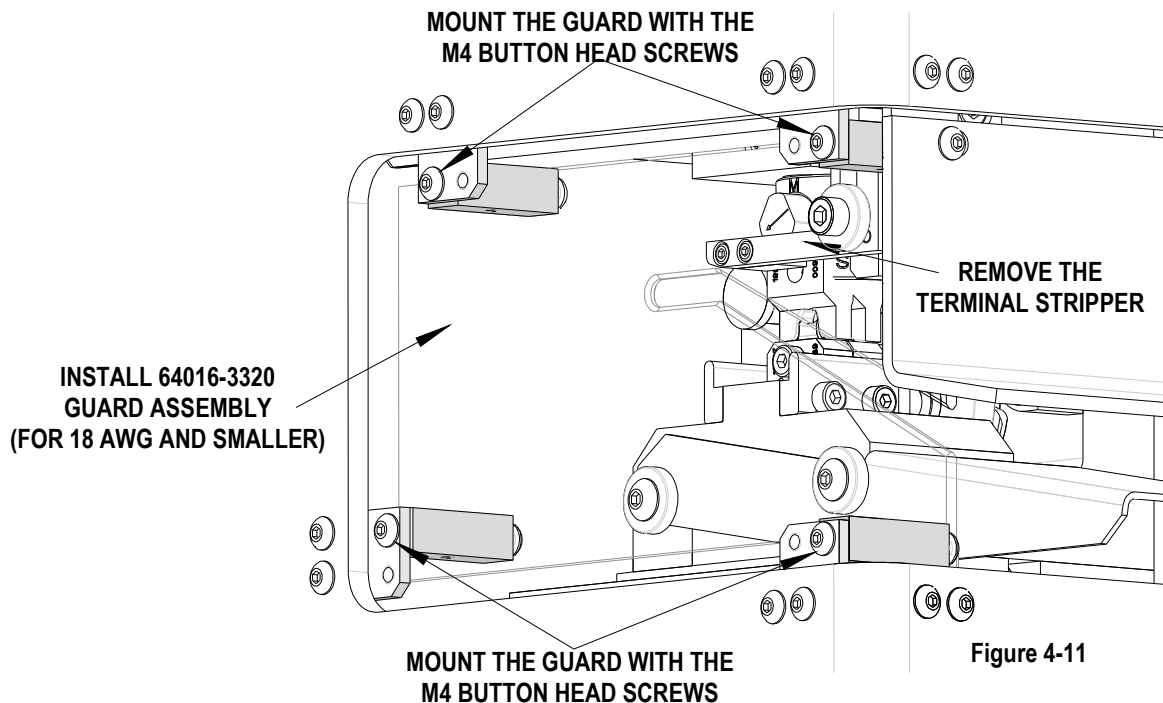

Figure 4-11
2. Remove the (4) M4 button head screw and any point of operation guard or guard assembly.
3. Place the 64016-3320 guard on the far side of the (4) mounting brackets.
4.  Install the (4) M4 button head screw into the clearance holes (not the tap holes) as shown in Figure 4-11.